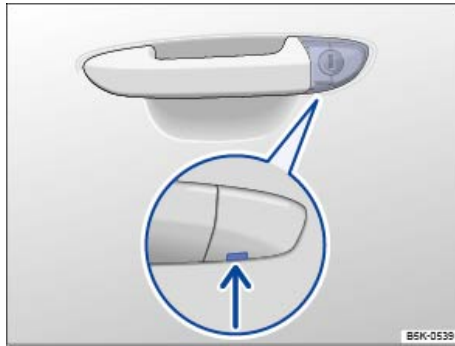

Fig. 177 Door handle on driver door: Concealed lock cylinder (if applicable).
- If the vehicle has a concealed lock cylinder, insert the key bit from below into the opening of the cover cap on the driver door ⇒ fig. 177 (arrow) and lift the cover cap off. Grasping the door handle and pulling slightly makes it easier to remove the cap.